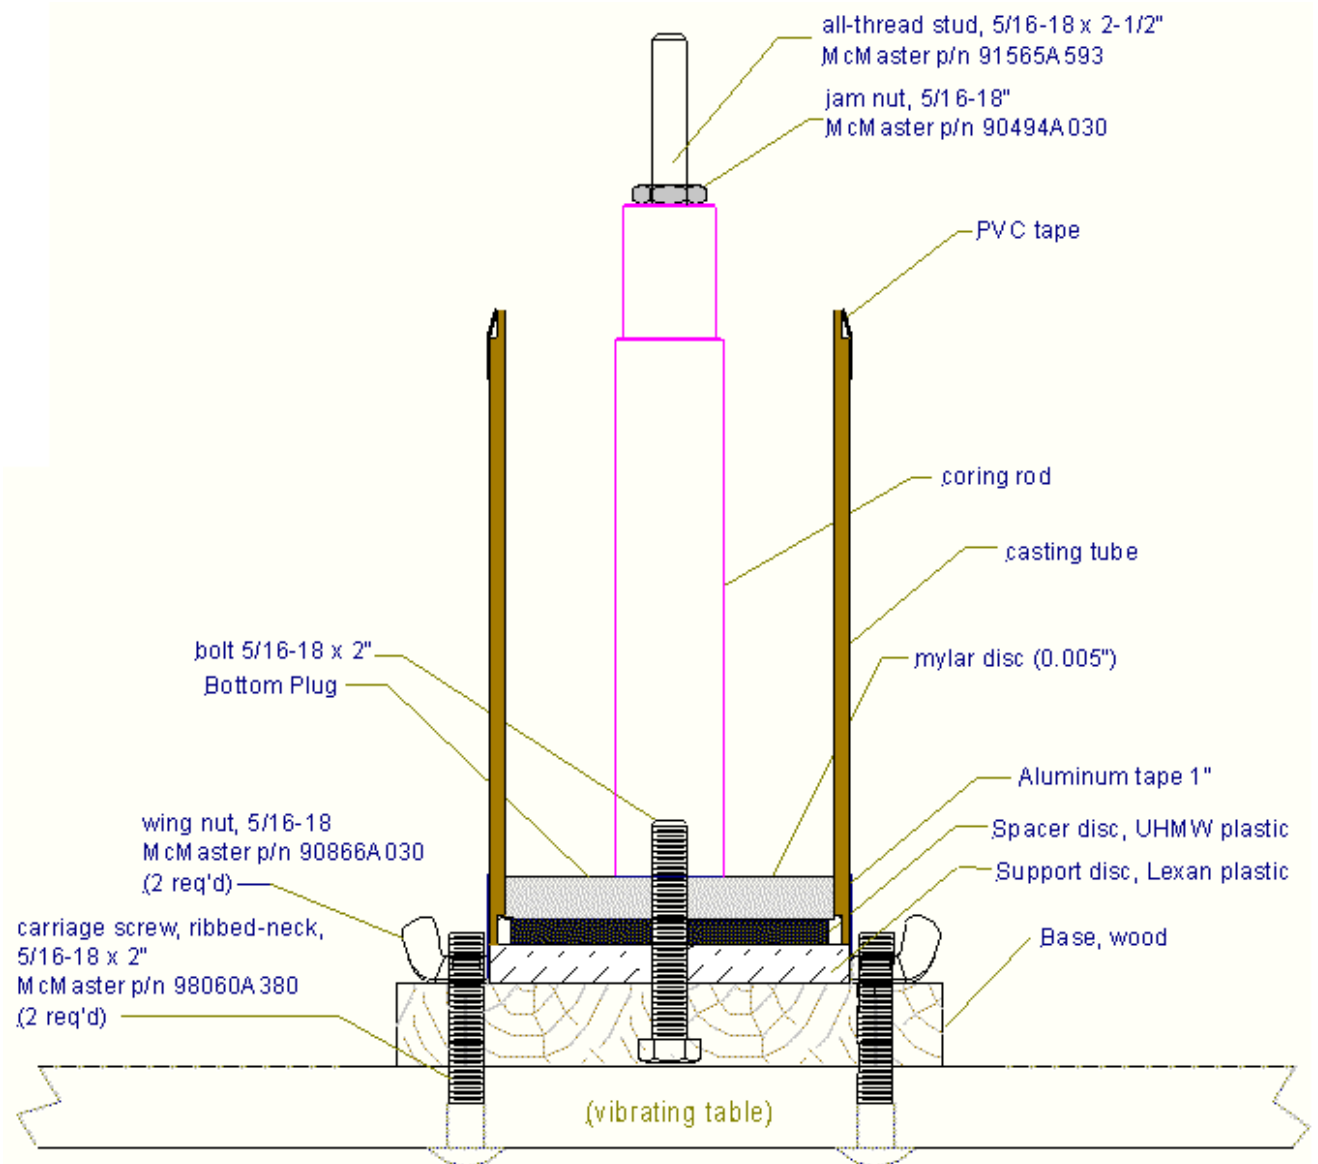

Figure 1 – Setup for propellant loading operation.
5. Assemble casting apparatus for propellant loading shown in Figure 1. Use a 1” wide strip of aluminum foil tape to secure casting tube to the Support Disc.